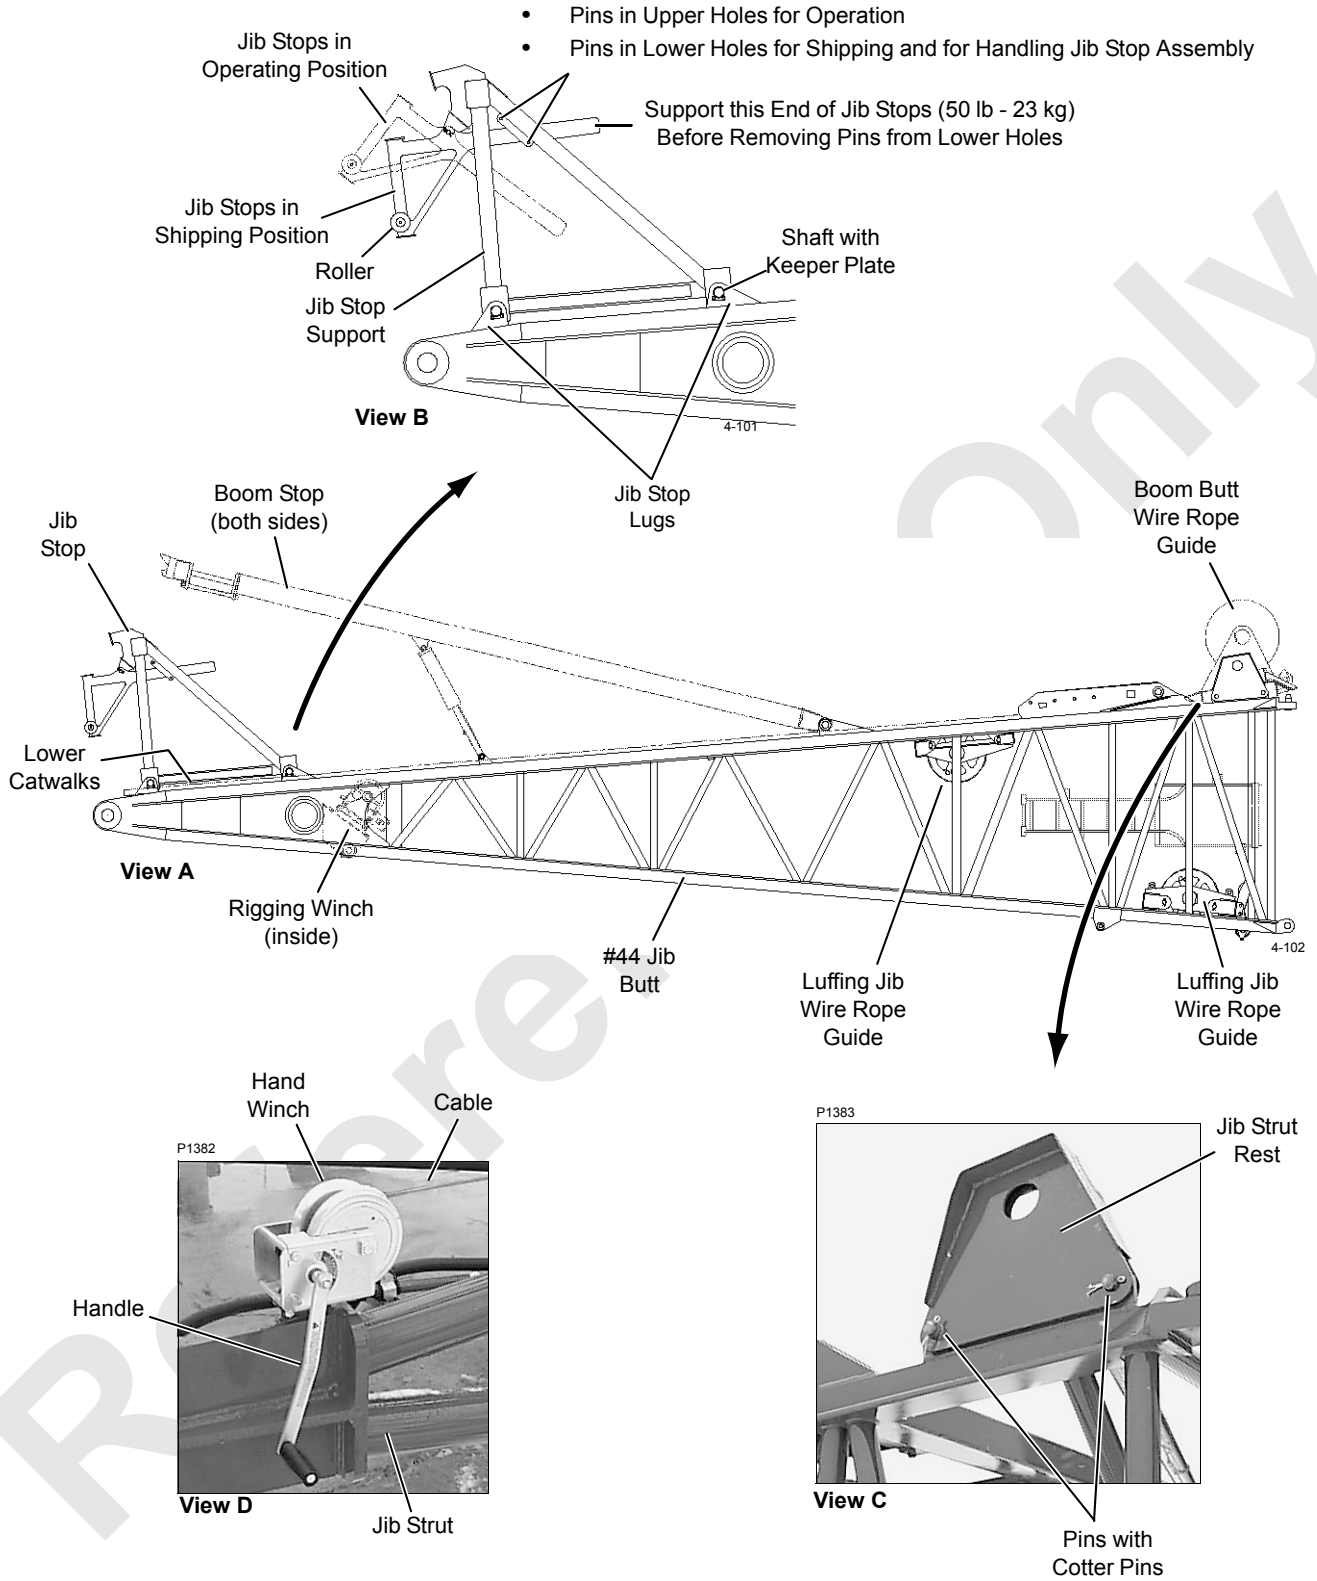

FIGURE 4-6
3. Swing boom in-line with crawlers and lower boom point onto blocking approximately 54 in (1,4 m) high as shown in Figure 4-6, View A. This will allow you to assemble jib on blocking approximately 6 in (152 mm) high.
9. Attach jib stop assembly to lugs on jib butt with shafts and keepers plates (Figure 4-6, View B).
10. Pin jib strut rest to lugs on jib butt (Figure 4-6, View C).
11. Attach hand winches to jib strut if necessary (Figure 4-6, View D).